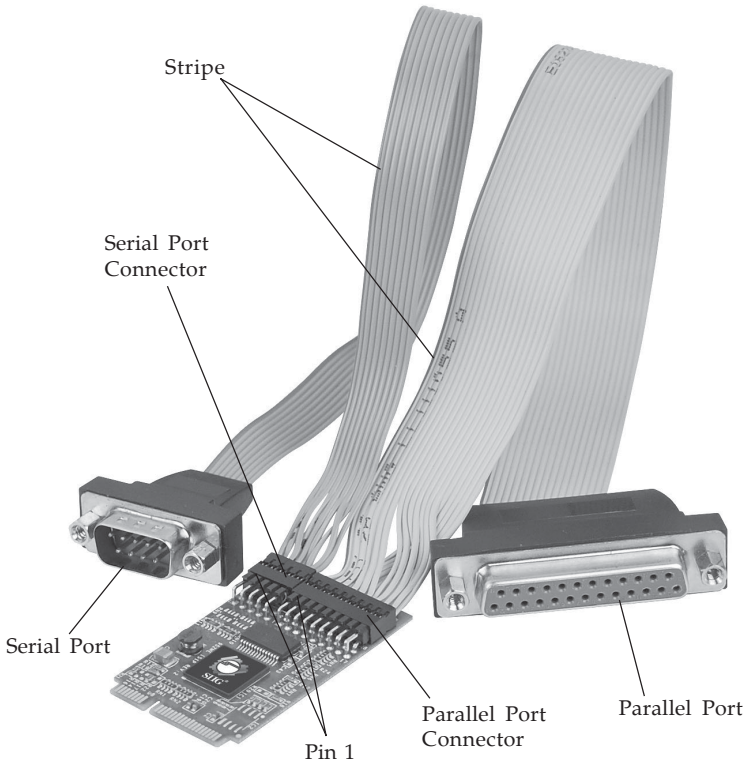

Figure 2: Serial Port and Parallel Port Cable Connection
4. Connect the DB9 Serial cable and DB25 Parallel cable to the board's connector. Align the stripe on the cable to Pin 1 of the board's connector. See **Figure 2** on page 3 for more information.